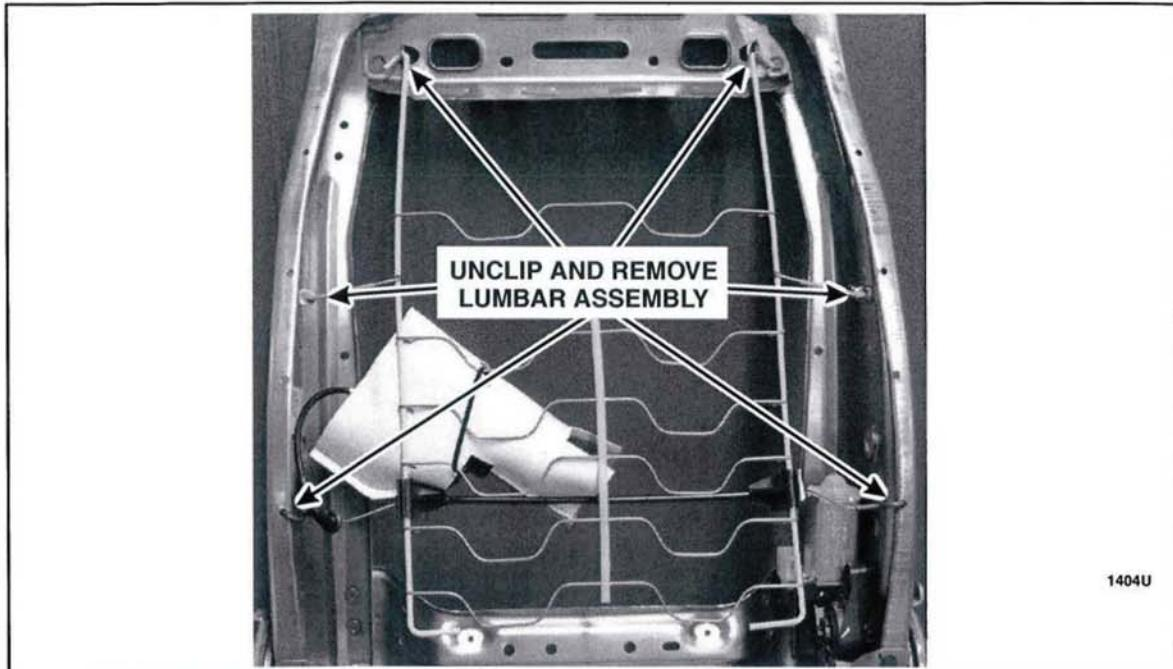

FIGURE 19
See Figure 19.
1. Install the lumbar assembly onto the *new* seat backrest frame. See Figure 19.